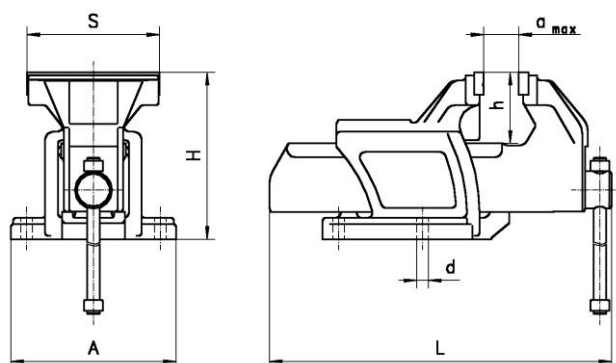

Fig.2
- b / fixed vice type 1250 (fig. 2, table II) with rectangle guideway,
Fixed bench vices with rectangle guideway type 1250 fig. 2, table II are made of high quality cast-iron moulds.